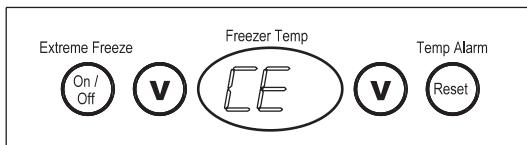

Figure 9
The display will alternate between temperature and "CE" or "E" and the control panel will beep every five (5) seconds (see figures 9 and 10). Press the ALARM RESET button to turn the audible alarm (beep) off. Call service repair to correct the problem.